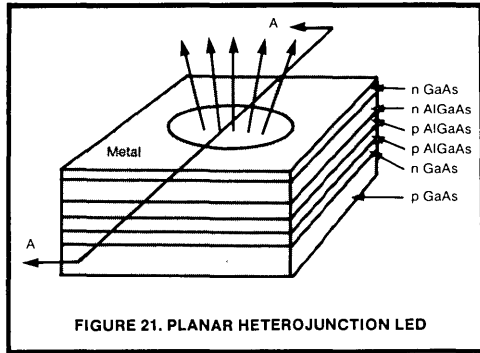
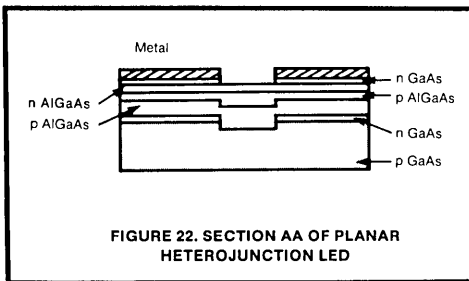

FIGURE 21. PLANAR HETEROJUNCTION LED
FIGURE 22. SECTION AA OF PLANAR HETEROJUNCTION LED
Figure 21 is a heterojunction aluminum-gallium-arsenide structure. The geometry is designed so that the device current is concentrated in a very small area of the active layer. This accomplishes several things: (1) the increase in current density makes for a brilliant light spot; (2) the small emitting area is well suited to coupling into small core fibers; and (3) the small effective area has a low capacitance and, thus, higher speed.
In Figure 21, the device appears to be nothing more than a multilayer version of the device in Figure 20a with a top metal layer containing a small opening. However, as the section view of AA shows in Figure 22, the internal construction provides some interesting features. To achieve concentration of the light emission in a small area, a method must be incorporated to confine the current to the desired area. Since the individual layers are grown across the entire surface of the wafer, a separate process must be used to confine the current. First an n-type tellurium-doped layer is grown on a zinc-doped p-type substrate. Before any additional layers are grown, a hole is etched through the n-layer and just into the substrate. The diameter of the hole defines the ultimate light-emitting area. Next, a p-type layer of AlGaAs is grown. This layer is doped such that its resistivity is quite high; this impedes carrier flow in a horizontal direction, but vertical flow is not impeded since the layer is so thin. This ensures that current flow from the substrate will be confined to the area of the etched hole. The next layer to be grown is the p-type active layer. The aluminum-gallium mix of this layer gives it an energy gap corresponding to 820 nm wavelength photons. The actual P-N junction is then formed by growth of n-type tellurium-doped aluminum-gallium-arsenide. The doping and aluminum-gallium mix of this layer is set to give it a larger energy gap than the p-layer just below it. This makes it essentially transparent to the 820 nm photons generated below. A final cap layer of gallium-arsenide is grown to enable ohmic contact by the top metal. The end result is an 820 nm planar LED of small emission area. The radiation pattern is still lambertian, however.